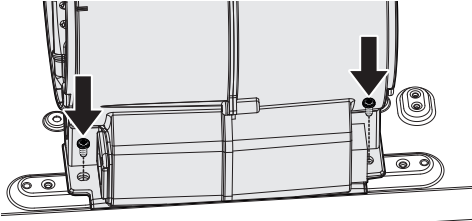

FIGURE 4
3. Install the motor kit into the back of the hood using the 2 screws supplied with the motor kit (Figure 4).